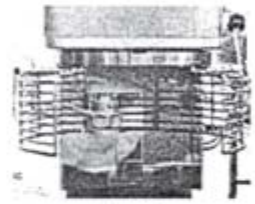

Fig. 5
1. Rotate the bowl guard so that it rests in the open position as shown in fig. 5 and lower the bowl to its resting position.